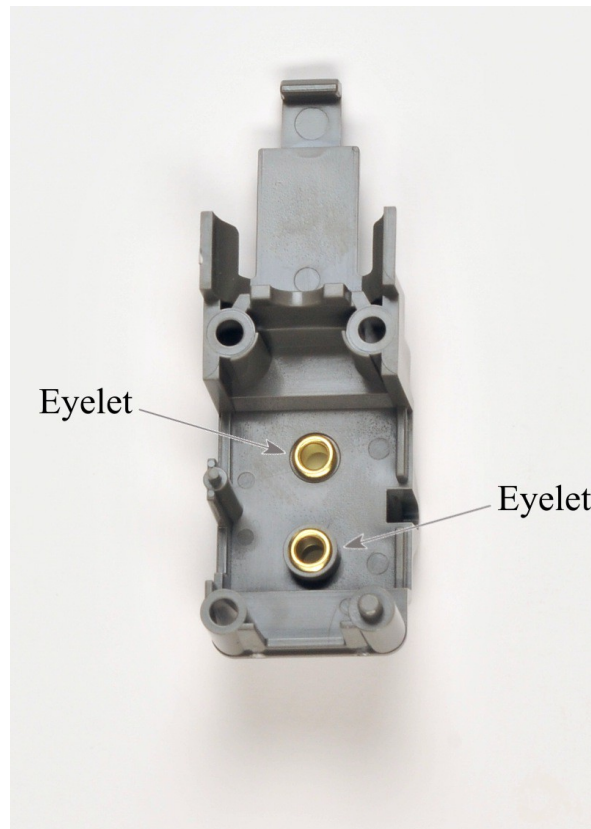

Figure 1.11
5. Place two eyelets into the inside center holes of the right side of the gear housing, as shown in figure 1.11.